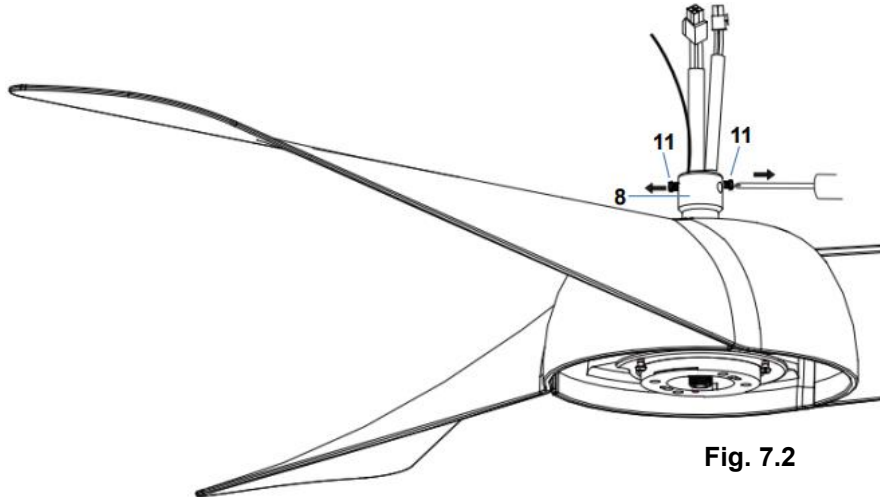

Fig. 7.2
2. Loosen the set screws (11) on the down rod coupling housing (8). (Fig. 7.2)